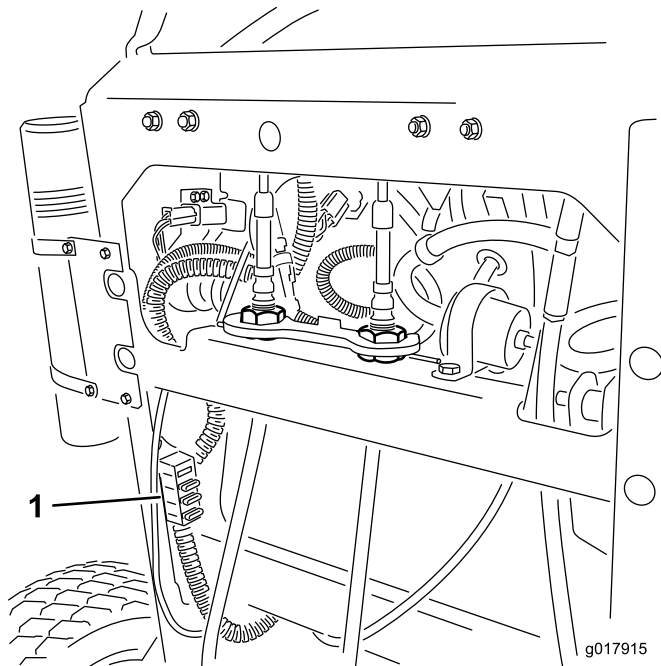

Figure 55
2. Pull out on the fuse to remove or replace it (Figure 55).
Note: Ensure the correct size fuse is installed Figure 55.